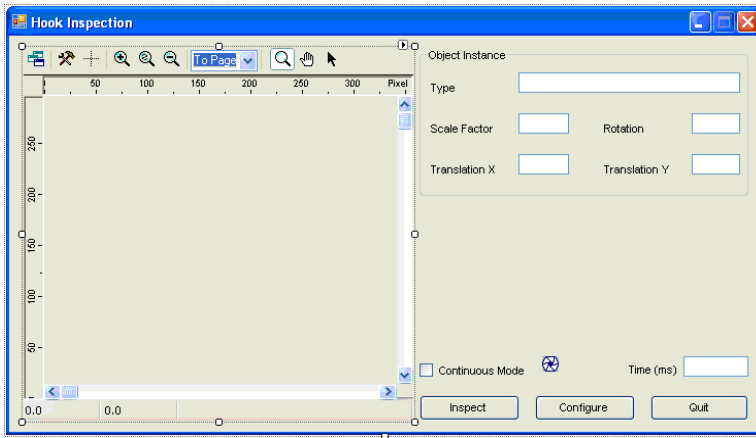

Figure 27 VB .NET Form for Tutorial 2
3. Click the **HSDisplay Control** icon and drag a small box on the form. Set the width to 378 and height to 365. The default name is `AxHSDisplay1`. Rename it *ApplicationDisplay*. The interface of the project is now complete and should look like the form in Figure 27.